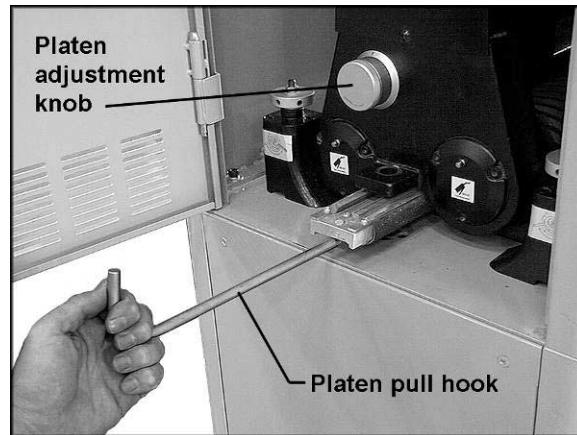

Figure 10
The height of the platen is set at the factory, but can be re-adjusted by rotating the platen adjustment knob (Figure 10). Each mark on the scale indicates a raising or lowering measurement of 0.005mm. One complete rotation of the scale moves the platen 0.2mm or approximately 8/1000 of an inch.
2. Place the platen pull hook into the hole on the end of the platen and pull out the lower portion of the platen assembly, as shown in Figure 10. **NOTE:** The platen is tightly fitted and will require a firm pull with the pull hook.